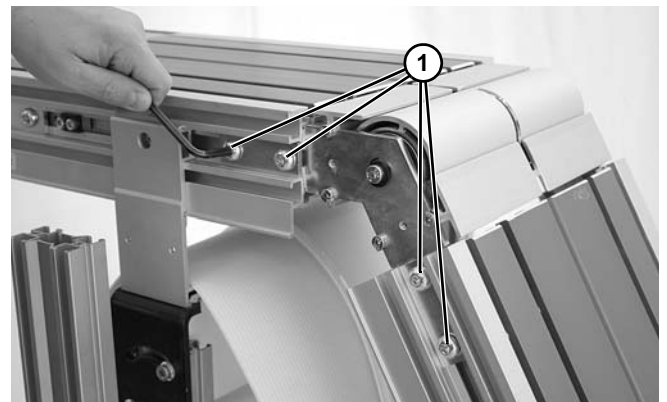

Figure 95
4. Remove knuckle assembly from conveyor by loosening 4 bolts (Figure 95, item 1) on both sides of conveyor.